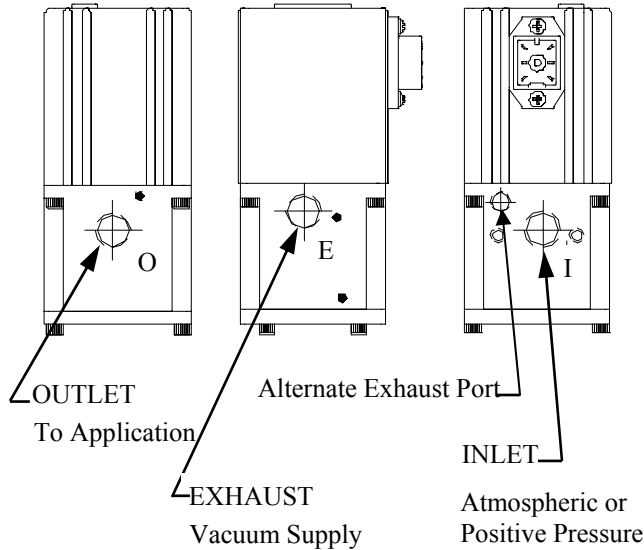

Figure 1
3. A 1/16" plug is supplied with the valve. It can be used to plug the "Alternate Exhaust Port" if the exhaust media should be captured or when the valve is used for vacuum or vacuum through positive pressure control. See Figure 1 for port location.
1. Connect supply pressure to the "I" port (Figure 1) not to exceed rated supply pressure. (See TABLE 1)
2. Connect the "O" port (Figure 1) to the device being controlled.
2. Connect vacuum supply to the "E" port (Figure 1).
3. Connect supply pressure to the "I" port (Figure 1) not to exceed rated supply pressure (See TABLE 1). Supply pressure is required on vacuum and vacuum to positive pressure QB3 units.
4. Connect the outlet "O" port (Figure 1) to the device being controlled.
2. Connect a precision measuring gauge or transducer to the outlet port of the QB3 (Figure 1).